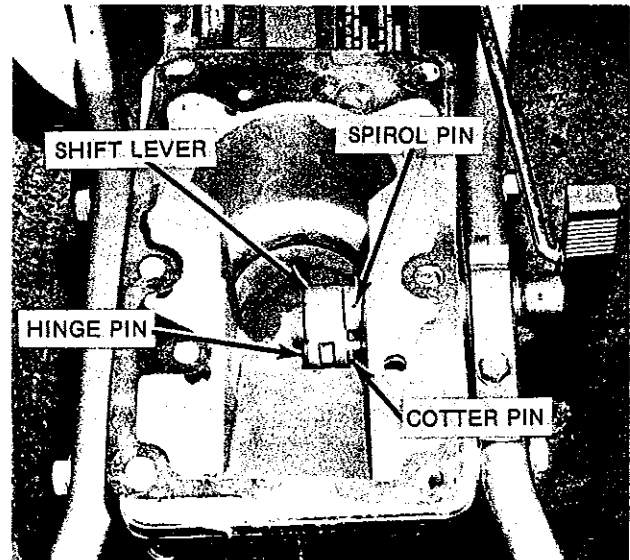
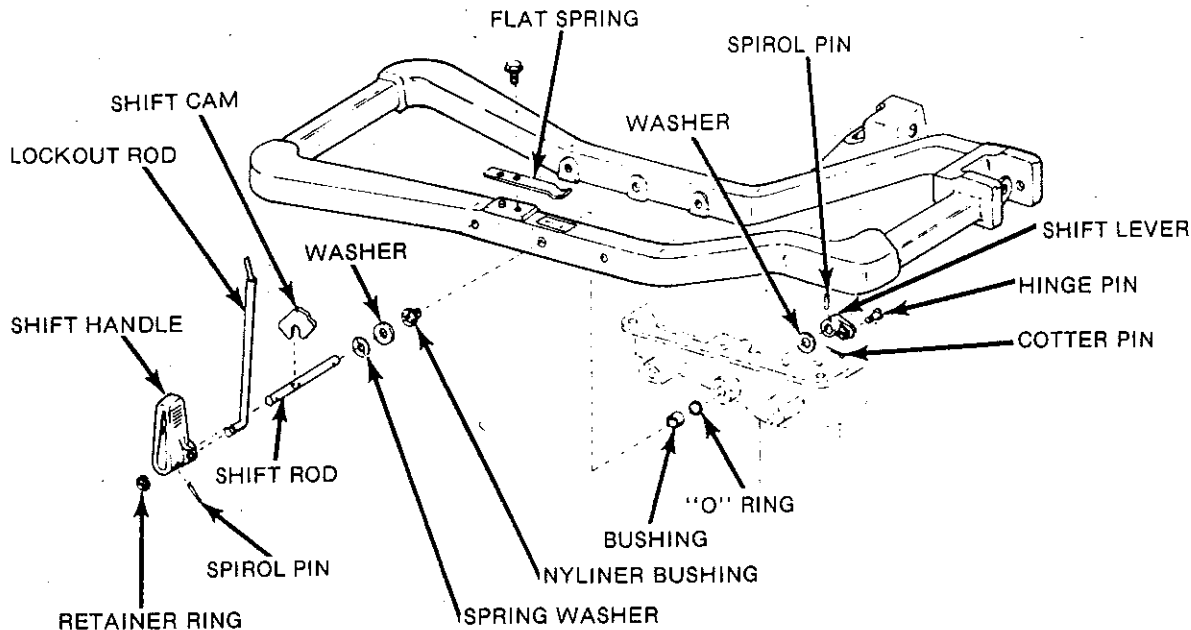
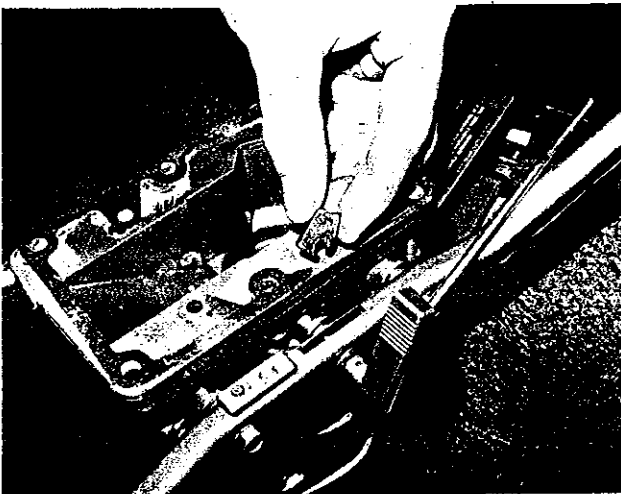

Figure 7
Figure 8
Figure 16
- (1) Remove cotter pin and hinge pin (Figure 7).
- (2) Drive out spirol pin and remove shift lever and washer.
- (3) Remove flat spring and shift rod cam (Figure 8).
- (4) Remove shift handle, shaft and lockout rod.
- (5) Remove nyliner flange bushing in carrier handle.
- (6) To remove bushing and "O" ring in column housing, remove carrier handle so bushing
- (1) Install "O" ring and sleeve bushing in column (Figure 8).
- (2) Install carrying handle.
- (3) Install nyloner bushing in carrying handle.
- (4) Install shift handle on shift rod and retain with spiro pin.
- (5) Install lockout rod on shift handle and retain with retaining ring.
- (6) Install spring washer and flat washer on shift rod and insert shift rod in carrying handle and column.
- (7) Place flat washer and then shift lever on shift rod.
- (8) With shift handle and shift lever in positions shown in Figure 7, drive spiro pin into shift lever and rod.
- (9) Connect column link rod with shift lever and install hinge pin and cotter pin.
- (10) Install shift cam on shift rod with cam positioned as shown in Figure 16.
- (11) Install flat spring.